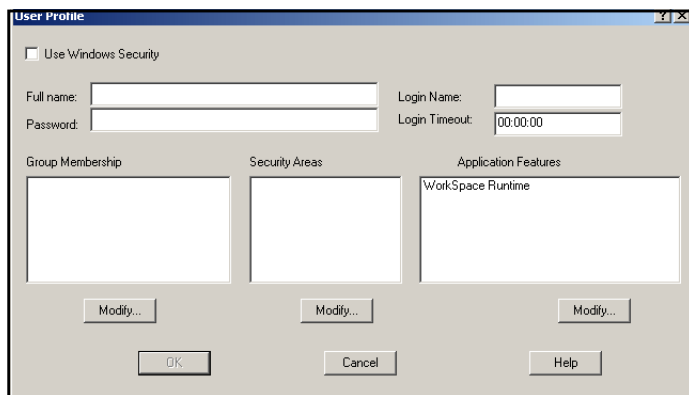

Figure 23: User Profile Window
3. From the User Accounts option, highlight a specific user and click the **Modify** button. The User Profile window (Figure 23 on page 35) opens.